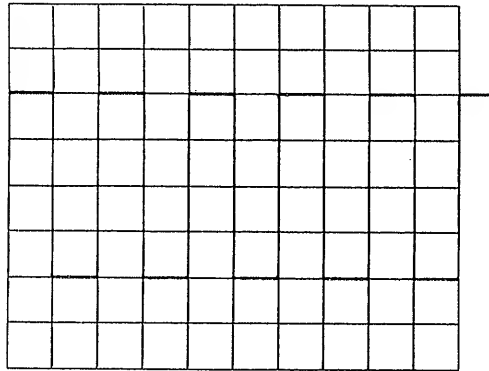

Figure 4-3
- 5) Set the AC-GND-DC switch in the AC state. A waveform as shown in Figure 4-3 will be displayed on the CRT screen.